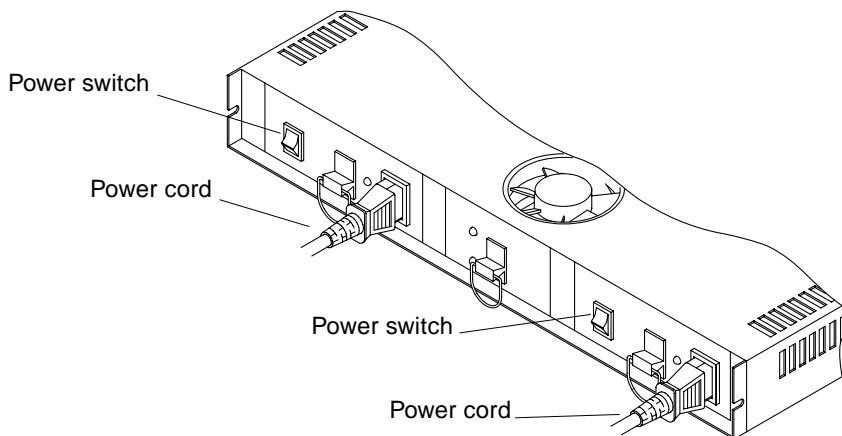

FIGURE 7-1 Power Switch and Power Cord Location
3. **Disconnect the power cord from the failed power supply (FIGURE 7-1).**
- 7. Plug in the power cord and turn the power switch to the On position (FIGURE 7-1).**